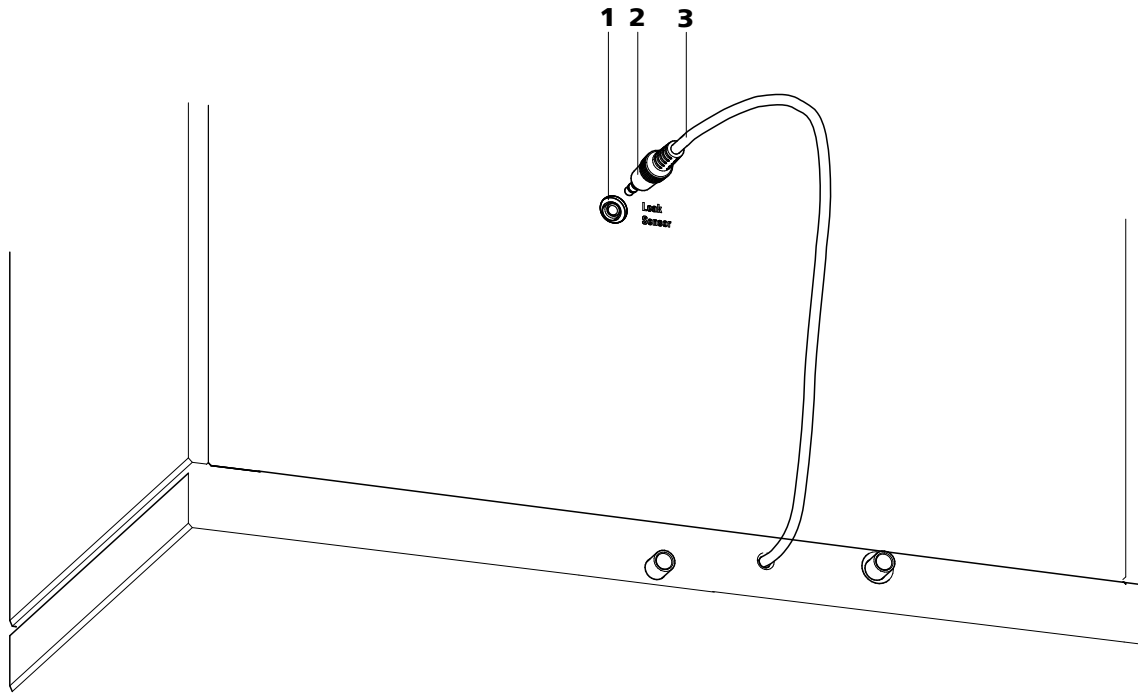

Figure 8 Connection for the leak sensor on the rear of the instrument
- 1 Plug the leak sensor connector plug (8-2) into the leak sensor connector socket (8-1) on the rear of the instrument (see Figure 8, page 26).